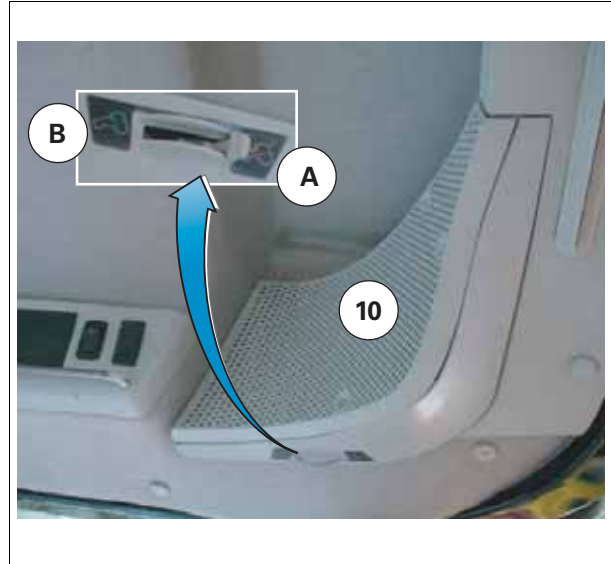

Fig. 24.
| (4) Triflash panel switch on roof (optional) | (10) Rear right-hand and left-hand air recycling grilles fig. 24 |
- 10 Rear right-hand and left-hand air recycling grilles fig. 24